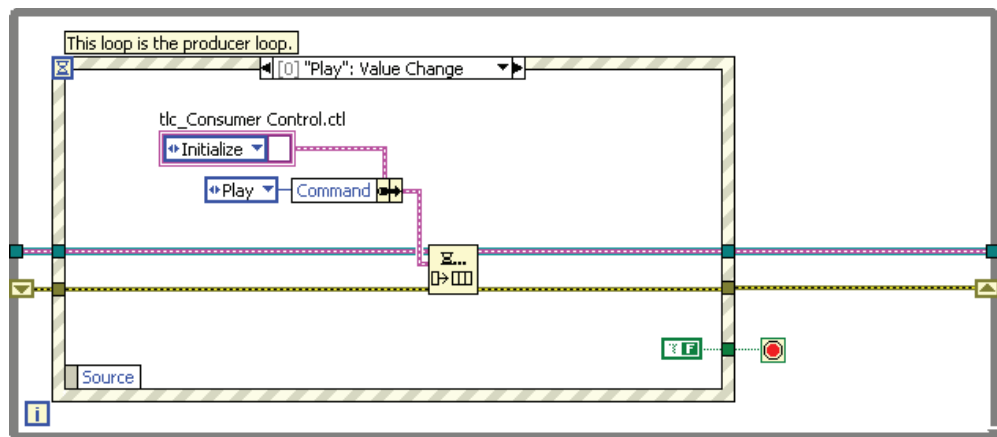

Figure 6-3. Producer Play Event
9. Modify the Play event case to send a message to the consumer loop to execute Play, as shown in Figure 6-3. Delete the Unbundle By Name and Or functions that are connected to the loop conditional terminal. Add the following items: